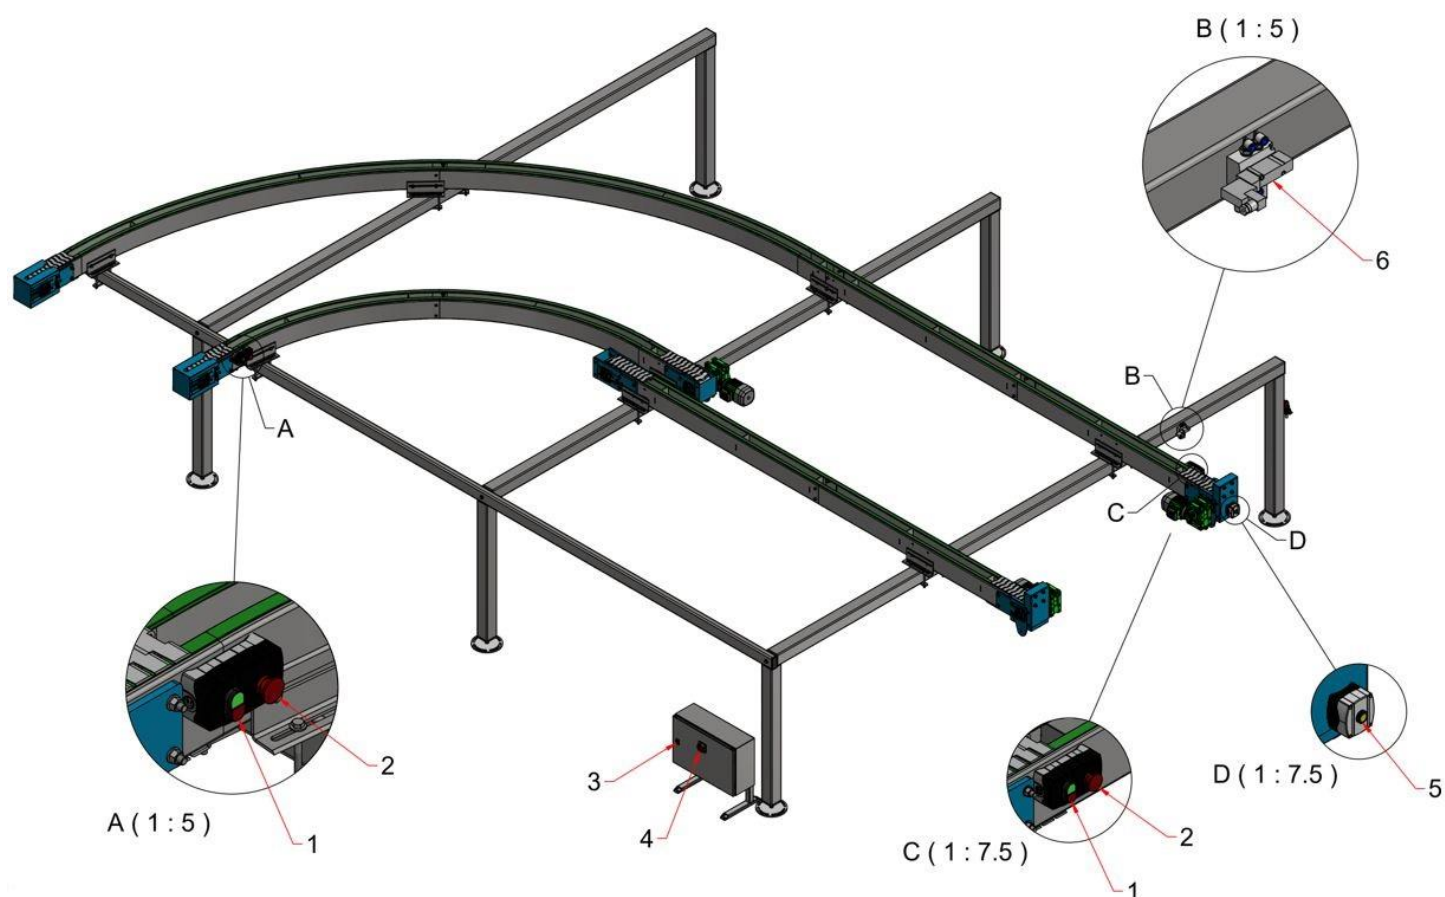

Figure 2, Curved Chain Conveyor controls
Table 5, Control functions see Figure 2
- Push the start/stop button (Figure 2, item 1) to stop the movement of the conveyor
- Push the start/stop button (Figure 2, item 1) to restart the movement of the conveyor
- Push the temporary stop button (Figure 2, Item 5) to activate it